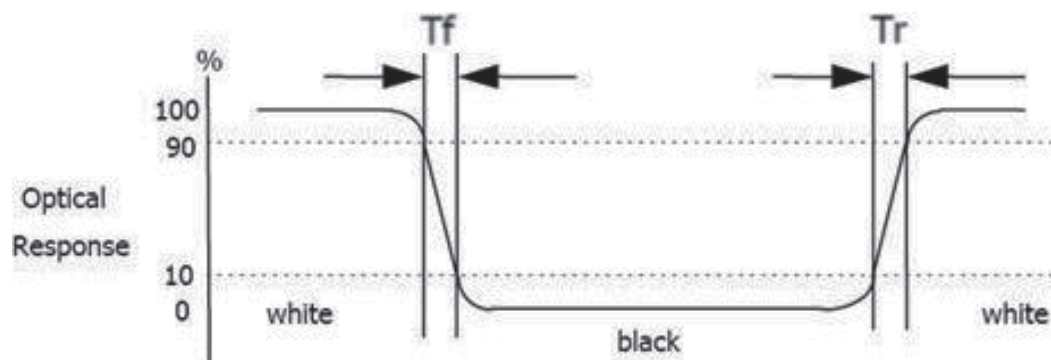

Figure 8. Response Time Testing
6. The electro-optical response time measurements shall be made as FIG.8 by switching the "data" input signal ON and OFF.